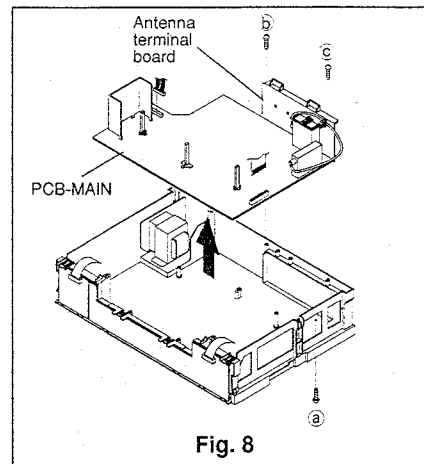

Fig. 8
- 5 If necessary to remove PCB-MAIN completely, remove the Assy Deck. (Refer to Para. 5 of the DISASSEMBLY.) Remove all connectors on the PCB-MAIN. Remove one fastening screw (Ⓐ) on the bottom and two fastening screws (Ⓒ and Ⓓ) on the Antenna Terminal Board shown in Fig. 8. Raise the PCB-MAIN upward to remove it.